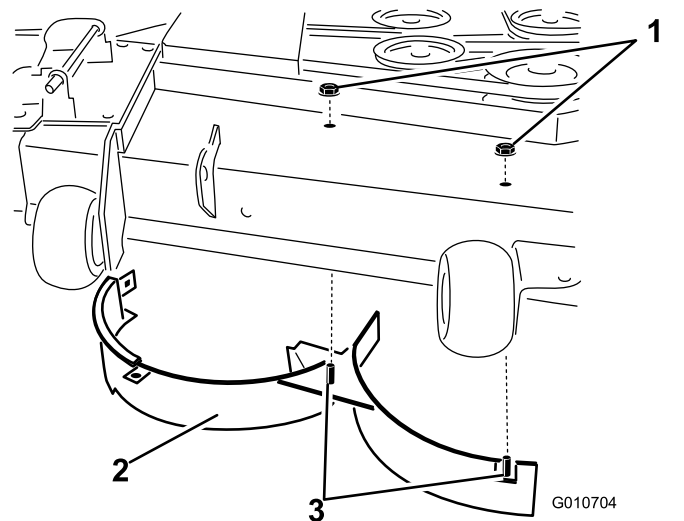

Figure 15
8. Remove the 2 locknuts (5/16 inch) to securing the welded posts of the right baffle to the top of the mower deck at the center and right of center positions (Figure 15).